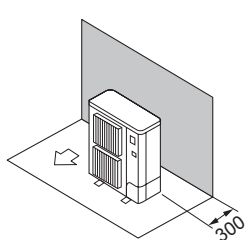

Fig. 2-6
- ① Kun forhindringer bagved (Fig. 2-6)